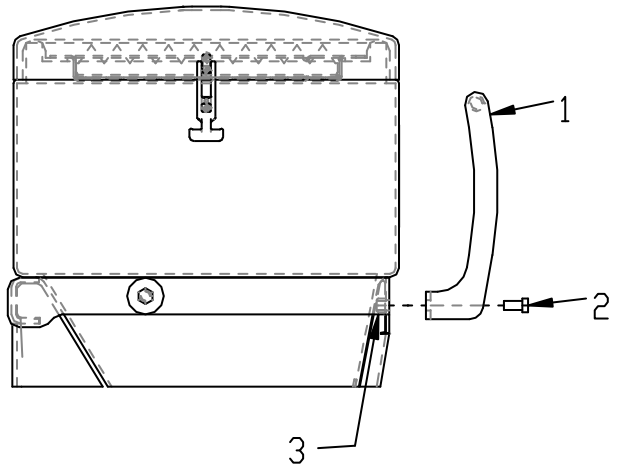

Figure 3. Handle Assembly
4. Assemble Handle (1) to Spreader Frame using two 1/2"-13 X 1" Bolts (2) and two 1/2"-13 Grade C Oval Top Lock Nuts (3). See Figure 3.